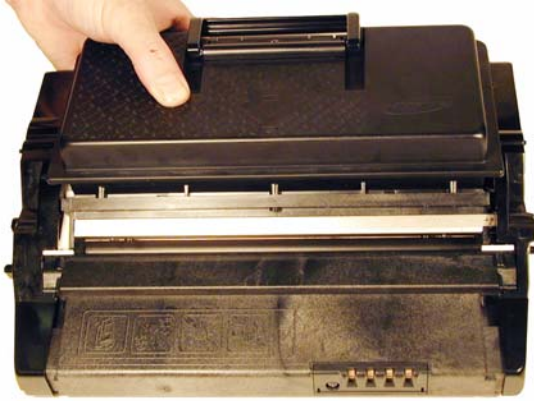

Figure 68
62) Align and snap the end cap into place. See **Fig. 68**